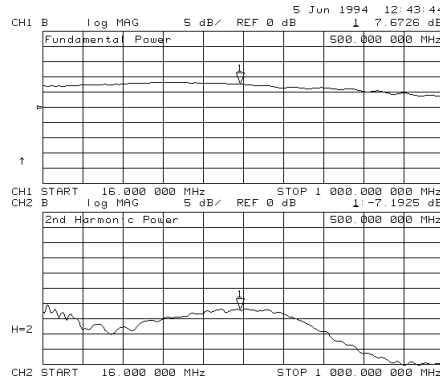

Figure 4-34. Fundamental and 2nd Harmonic Power Levels in dBm
- Press **SYSTEM**, *HARMONIC MEAS*, *SECOND*. You can view both the fundamental power and harmonic power levels at the same time. Refer to **Figure 4-34**.